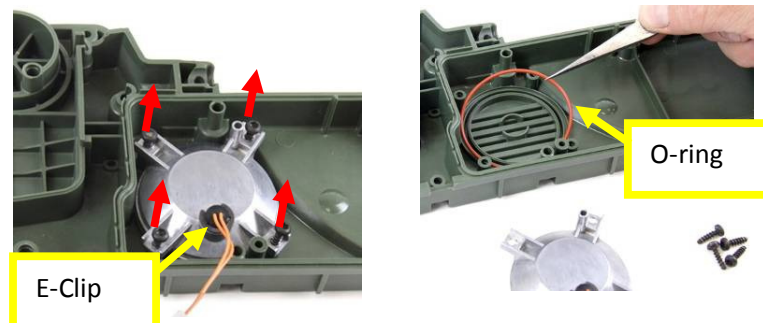

Figure 96: Replacing Speaker Assembly
- Remove the four (4) screws (12mm) from the speaker assembly in the right side of the detector body. Figure 96.